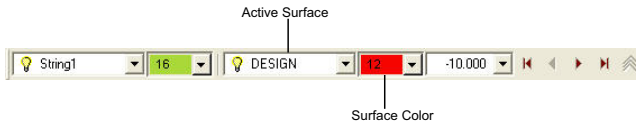

Figure 18-46. Properties Toolbar – Surface and Surface Color Menus
4. To set the new surface as the current surface in the Cross Section pane, select it from the surface drop-down menu on the Properties toolbar (Figure 18-46 on page 18-52).